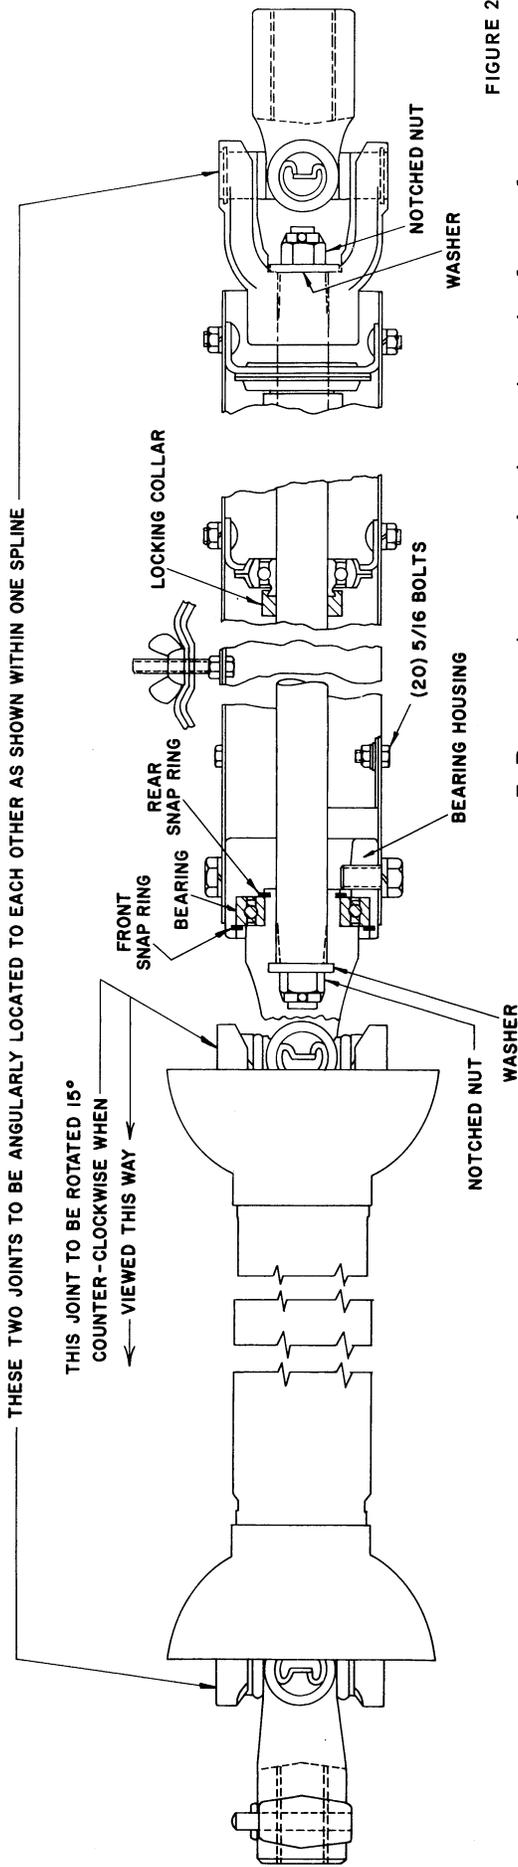

FIGURE 2
3. Locate the U-joint yoke on the splines of the long shaft in respect to the U-joint on the rear of the long shaft. Refer to Figure 2 for U-joint alignment. Secure the U-joint to the long shaft with washer, notched nut and cotter pin.
NOTE: UNIVERSAL JOINTS MUST BE ANGLED AS SHOWN IN FIGURE 2, otherwise excessive PTO vibration may occur when operating the harvester.